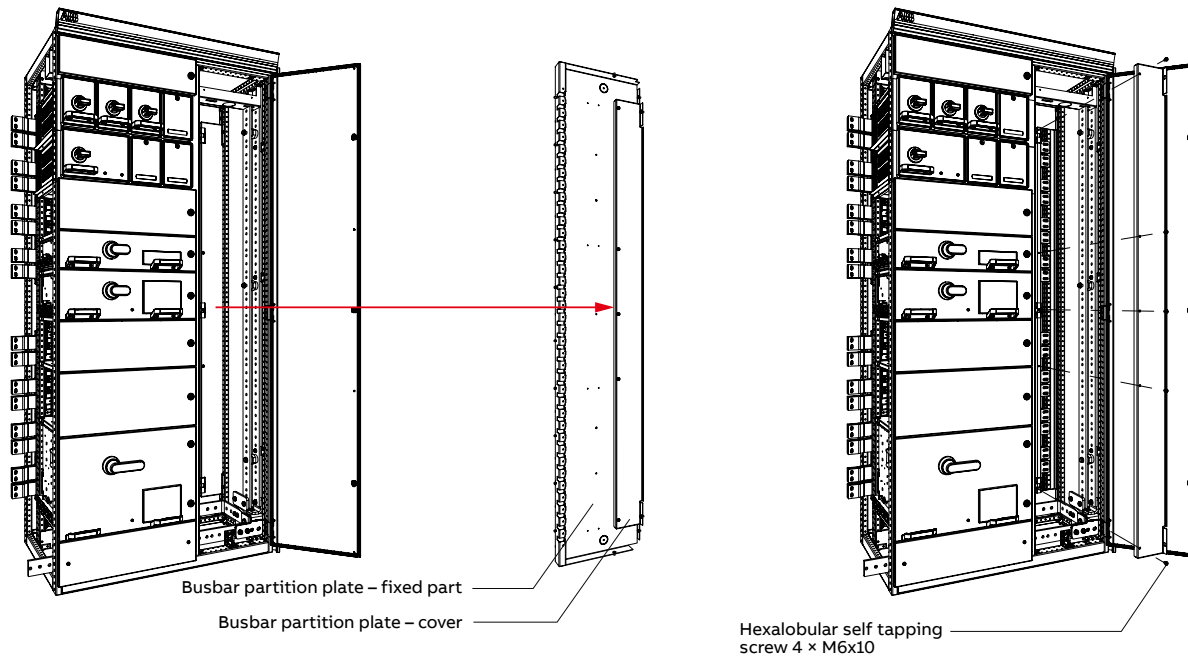

Figure 4-14 Busbar partition plate and fixing hole locations
- busbar partition plates (see Figure 4-14) shall be removed,